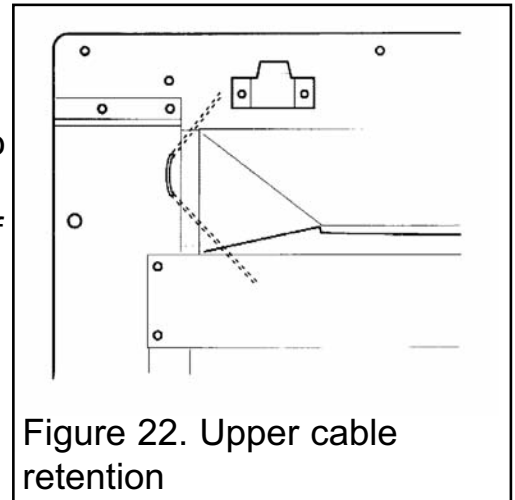

Figure 22. Upper cable retention
5. The convection box has two holes at each side of the convected air opening. Insert one end of each cable (one cable each side) from the back through the lower of the two holes and return the end through the upper of the holes (See figure 22). Give the cables a pull so that they grip against the convection box flanges.